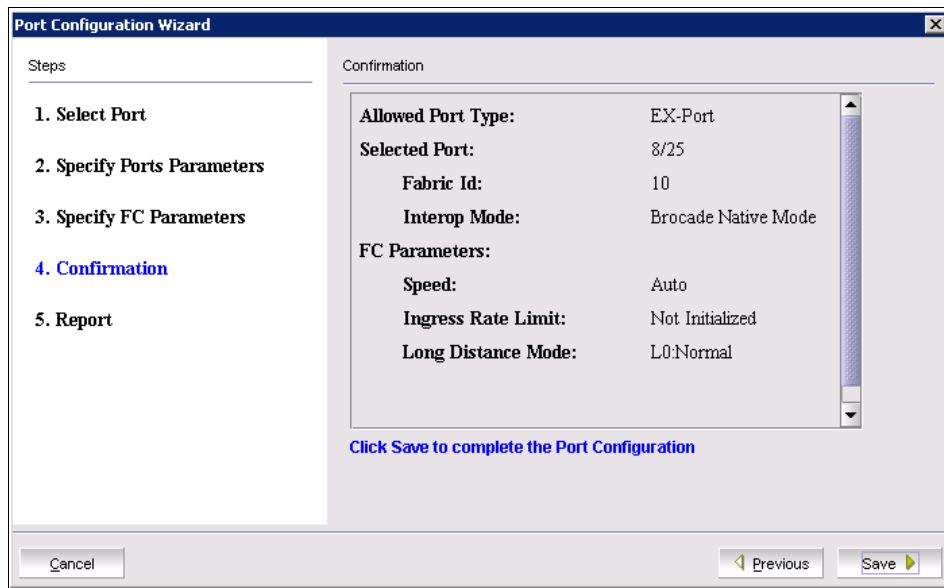

Figure 9-12 Saving Configuration
6. The final window of the wizard displays a summary, as shown in Figure 9-12. Click **Save** and **Close** to apply the configuration.